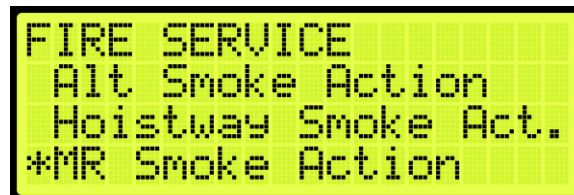

Figure 586: FIRE SERVICE Menu – MR Smoke Action
- From the FIRE SERVICE menu, scroll and select MR Smoke Action (See Figure 586).
2. From the FIRE SERVICE menu, scroll and select MR Smoke Action (See Figure 586).